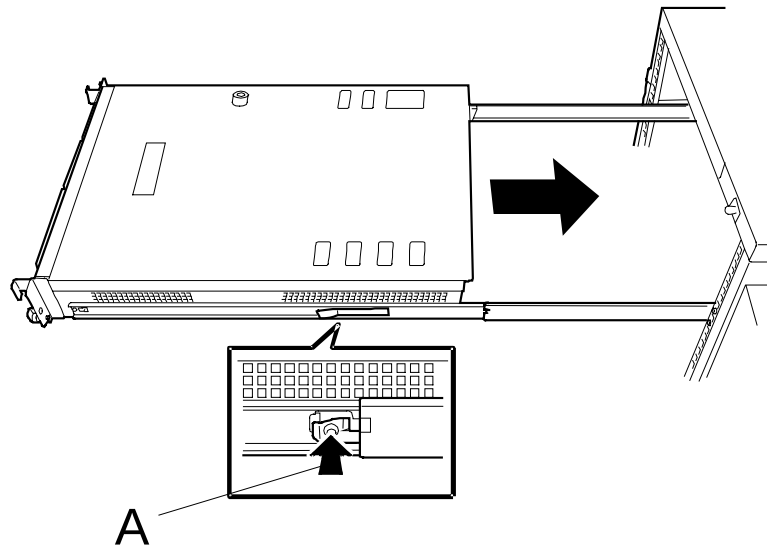

Figure 2-10. Pushing the Server into the Rack
2. Firmly fit the inner rails on the sides of the server into the rail assemblies that are installed to the rack. Slowly push the server into the rack (Figure 2-10). If the server is locked on its way into the rack, slowly push it in while pressing the release levers on the right and left sides of the server (Figure 2-10, A).